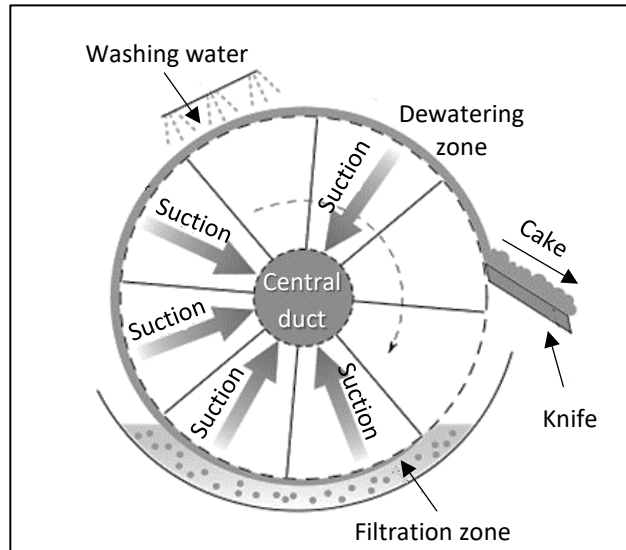

Figure 4-13. Vacuum filter.
- ❑ **Vacuum Filter Dewatering.** A rotating drum covered by a filter cloth is passed through a vat of residuals that have been conditioned with polymer. As a vacuum is applied between the drum surface and the filter, water is drawn inward, and a layer of residuals is left attached to the drum surface. When the vacuum is released, the dewatered residuals are removed by a scraper (Figure 4-13). Solids contents of 15 to 30% can be obtained.